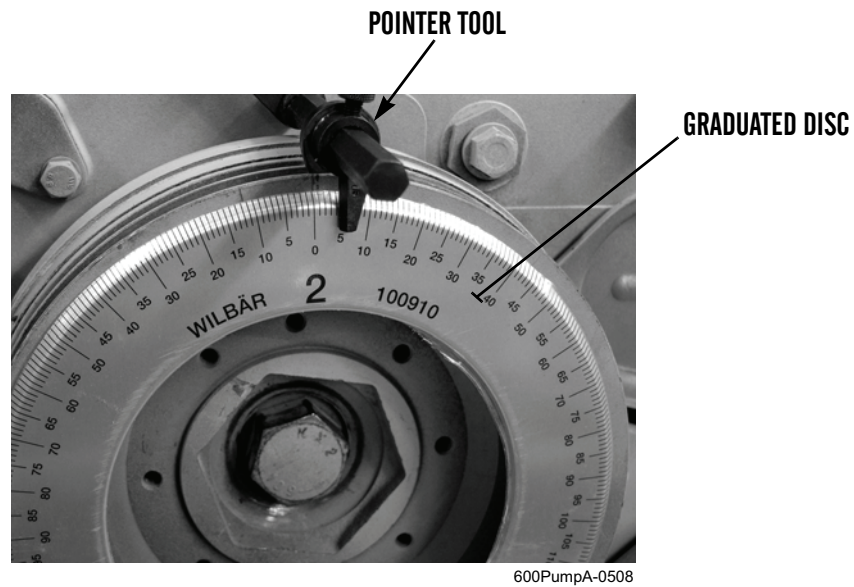

Figure 36. Removing Tools.
19. Remove pointer tool from engine front cover (Figure 36).
20. Remove graduated disc from V-belt pulley (Figure 36).